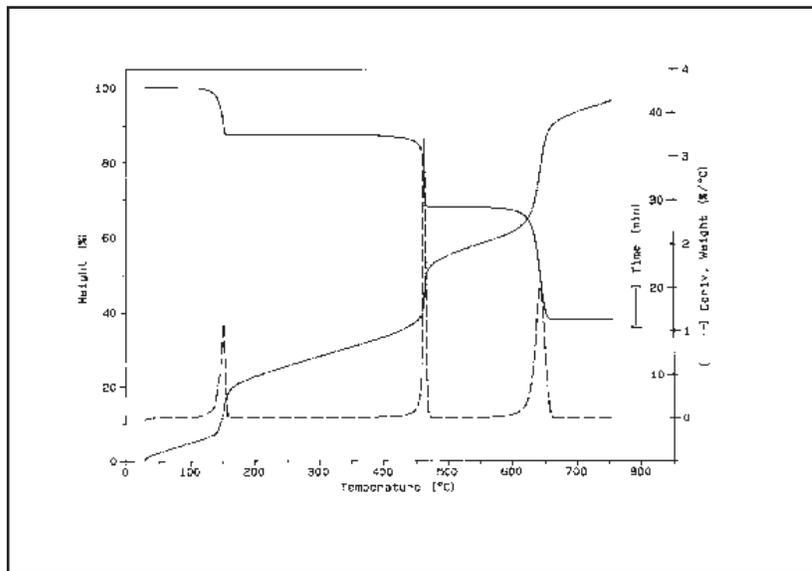

Figure B.4
- The resolution 4.0 scan (Figure B.4) gave much better resolution in about the same time as the 20 °C/minute scan.